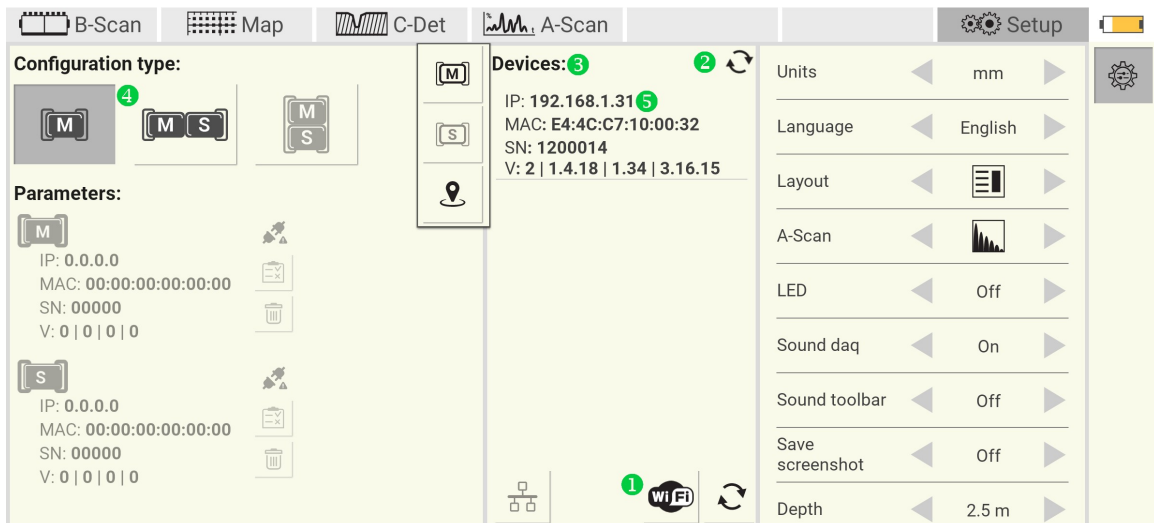

Figure 20: A1040 MIRA 3D configuration
After the scan finishes, the `device list` 3 shows all available devices. Select A1040 MIRA 3D-configuration 4 and tap on a device item 5 to assign it as a master , Figure 20.